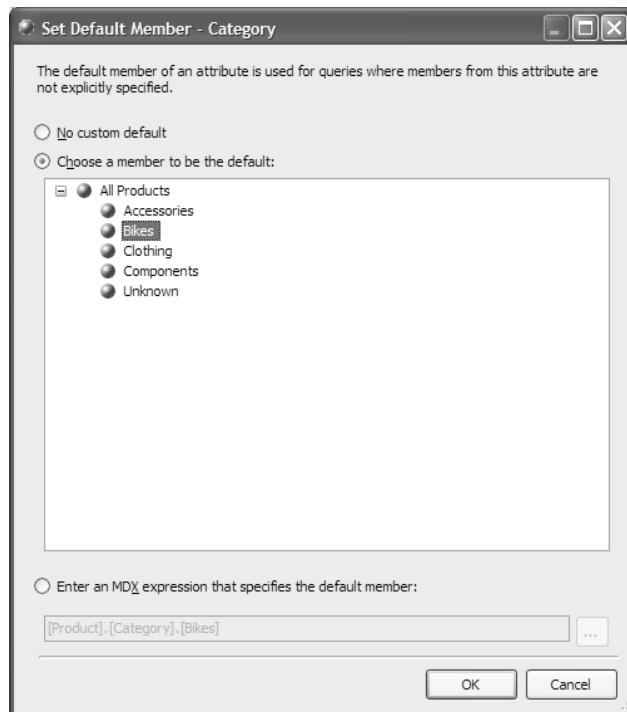

Figure 4.18 When an attribute is not explicitly requested, the default member will be used.
2. In the Properties window, click the ... button inside the *DefaultMember* property to open the Set the Default Member dialog (Figure 4.18). You can define a default member by selecting a given member or by using an MDX expression.